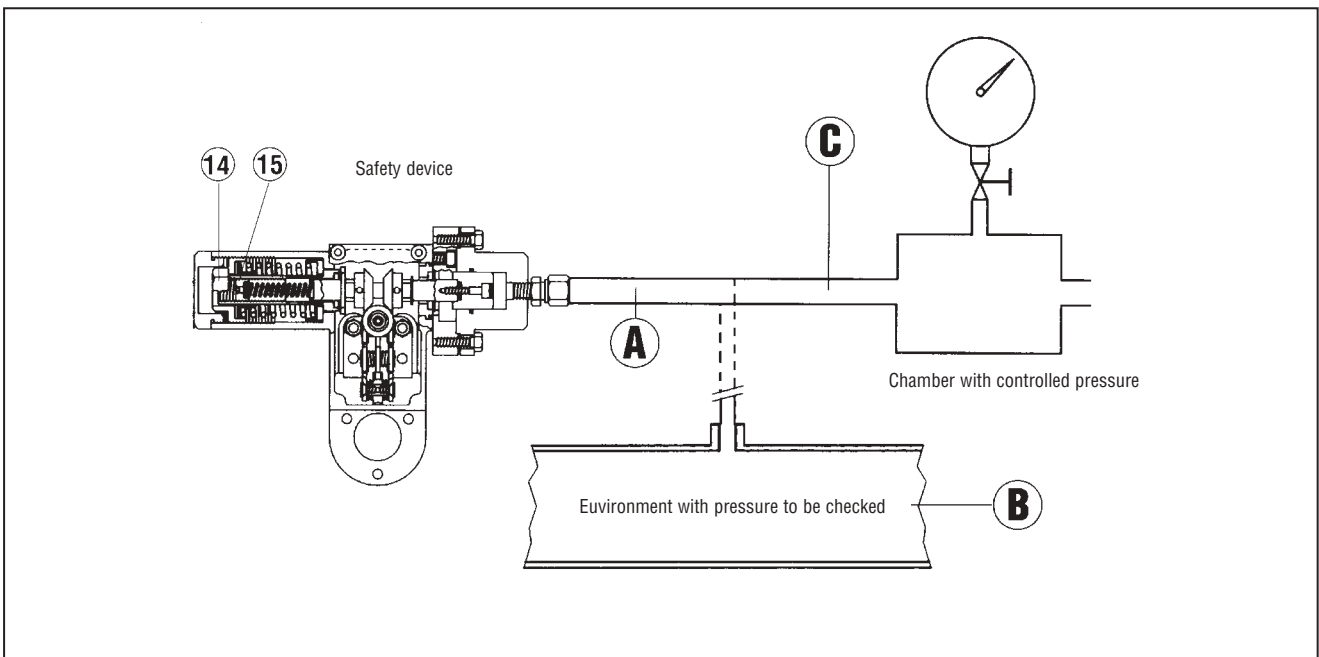

Fig. 22
B) On devices without the "push" valve (fig. 22) we recommend separately connecting the control head to a controlled auxiliary pressure and repeat the operations described above.
B) On devices without the "push" valve (fig. 22) we recommend connecting the control head separately to a controlled auxiliary pressure and repeat the operations described above.
- B) On devices without the "push" valve (fig. 22) we recommend connecting the control head separately to a controlled auxiliary pressure and repeat the operations described above.